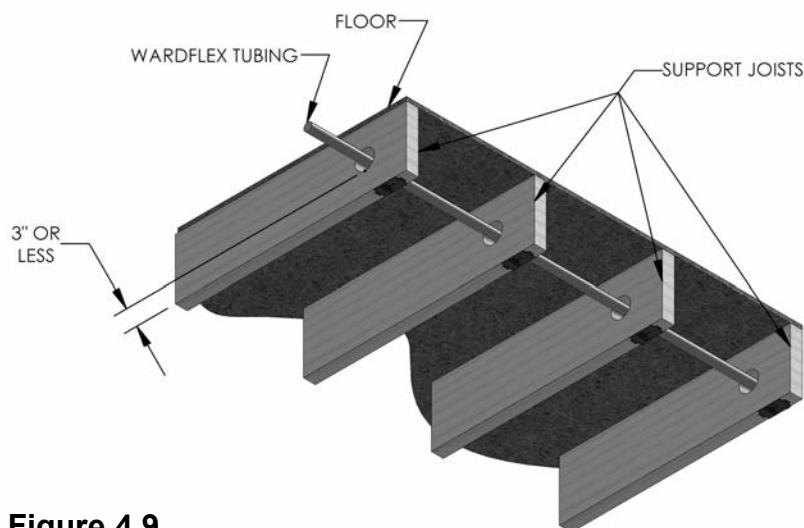

Figure 4.9
- E. Should an unfinished ceiling (I.e. basement) be covered at a later date, the quarter striker plates, shown in figure 4.9 and 4.10, should be replaced with appropriate protection devices that provide adequate protection for potential penetration threats.
- F. Although figures 4.9 and 4.10 are acceptable, installation method 4.11 is preferred.